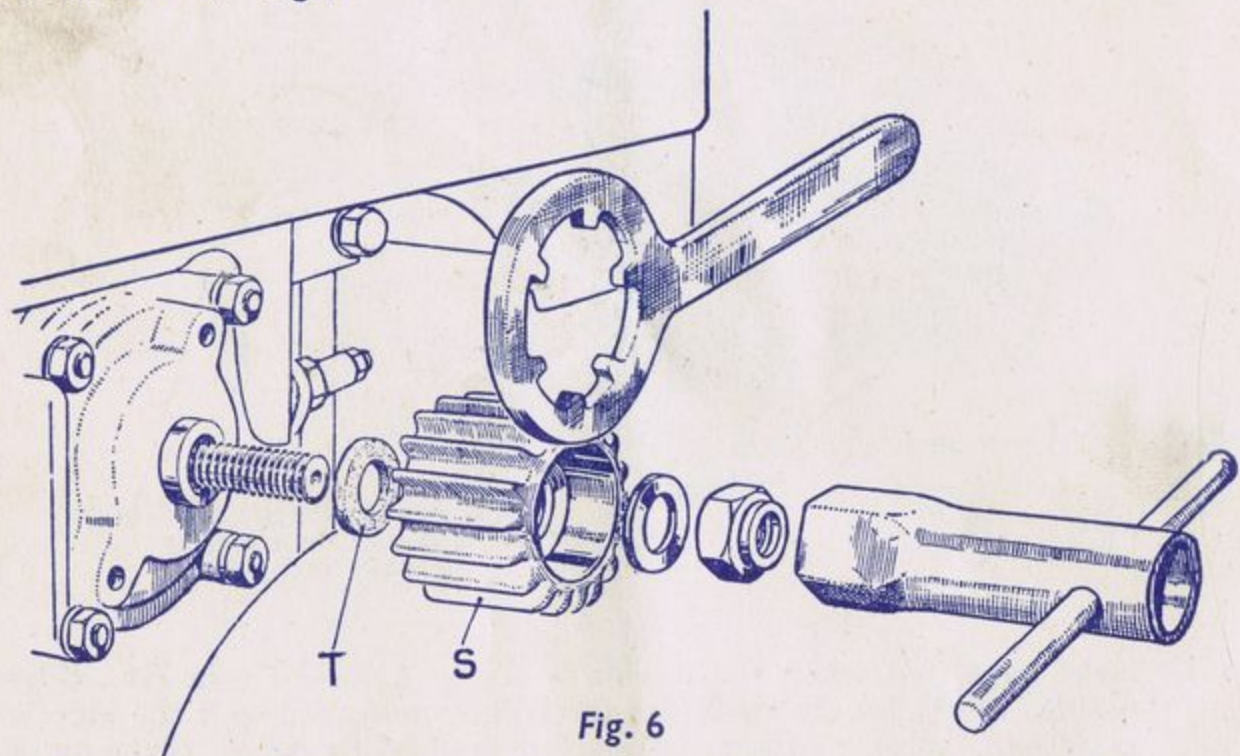

Fig. 6
- (1) First grasp the roller with the special spanner or large pair of pliers and undo the retaining nut Fig. 6. It is important that this instruction be followed carefully, as if an attempt is made to unscrew the nut while holding the magneto, damage to the crankshaft may result.
- (2) Having removed the nut and washers, the roller itself may now be unscrewed. It should come away quite easily and in this case it is permissible to grasp the magneto. If the roller will not unscrew easily it should be soaked in freeing oil and another attempt made after the oil has penetrated into the thread.
- (3) Reverse the operations to fit the new roller, making sure that the washers are replaced in the correct order, *i.e.*, the fibre washer "T" should be fitted between the crankcase and the roller "S," Fig. 6.